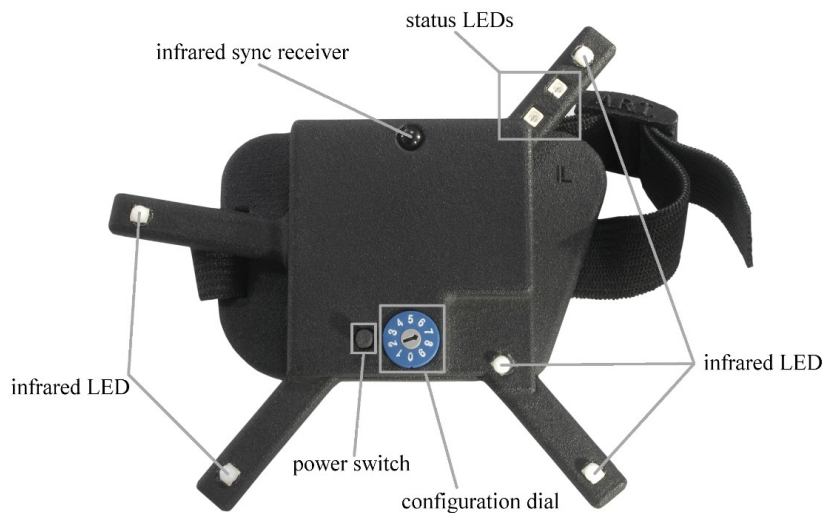

Figure 6.13: Standard Fingertracking hand target
- a hand target unit for fixing on the back of the hand with IR LEDs (active markers) for tracking (see figures 6.13 on page 85 and 6.16 on page 88).
On/off button Pressing the small black button next to the configuration dial activates or deactivates the target (please refer to figure 6.13 on page 85). After turning on the hand target unit, the status LEDs light up according to table 6.5 on page 85. When deactivating the hand target all IR LEDs are switched off and the microcontroller is put into sleep mode. Therefore a certain minimal power consumption is inevitable.
Configuration dial The configuration dial is used to select the LED brightness and the number of fingers used in the setup (please refer to figure 6.13 on page 85). A detailed description of the configuration dial may be found in table 6.6 on page 86.
The black sphere on top of the Fingertracking hand targets is a receiver for the coded IR flash (i.e. modulated infrared signal) which is used for synchronization (see figure 6.13 on page 85 or 6.16 on page 88). This coded signal can be generated by all **ART** tracking cameras, except for **ARTTRACK1** and older **ARTTRACK2** (up to SN 320) cameras. However, Fingertracking may also be used with tracking systems where older **ARTTRACK2** (< SN 320) or **ARTTRACK1** cameras are used. For this purpose an additional external flash can be purchased from **ART**.